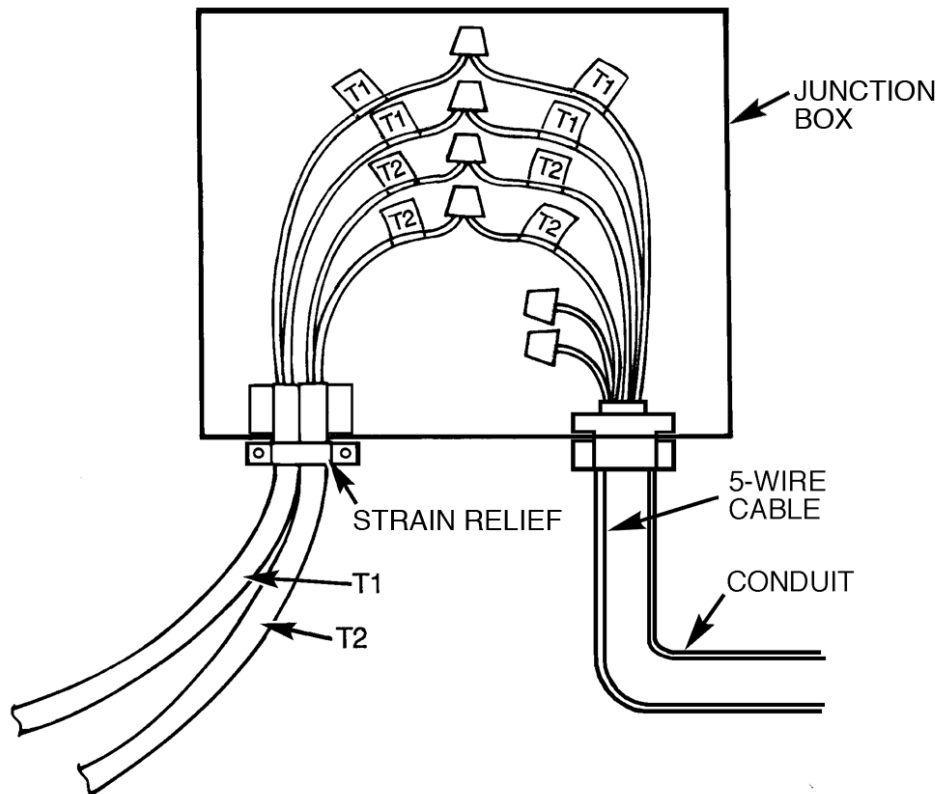

Fig. 9 — Typical Junction Box Connections
28. Run one end of the jacketed cable(s) into the junction box and splice the cable wires to the identically tagged thermistor leads. Solder the splices and insulate them to prevent shorting. Tighten the strain relief for the cable(s) and secure the junction box cover with the supplied M6 screws. Splicing for leads is shown in Fig. 9.